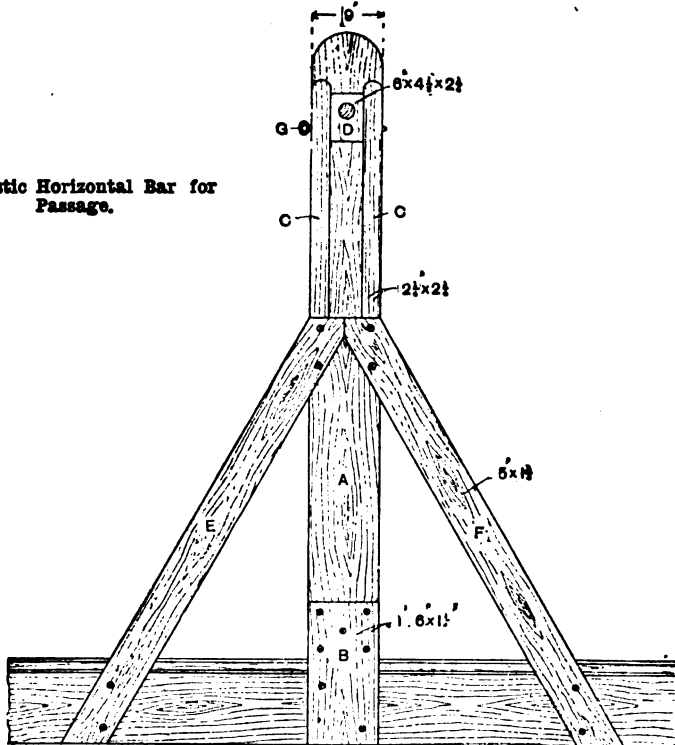

Fig. 1
**Gymnastic Horizontal Bar for Passage.**—Figs. 1 and 2 show front and side elevations of a simple arrangement for fixing a horizontal bar in a passage. Two such uprights will be necessary. The wall piece A lodges on the top of the skirting, and is lengthened out by a piece B, the two being securely screwed together. The two slides C should be bored as shown. Each of them should then be secured to the wall piece by half a dozen 3-in. stout screws. The blocks D should next be bored to receive the end of the bar, and also